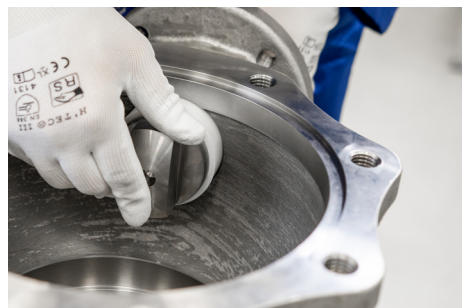

Figure 3
3. Insert stem (#4) through the valve body cavity, allowing the SX seal (#7) to be seated into the body counter bore. (see Fig. 3).